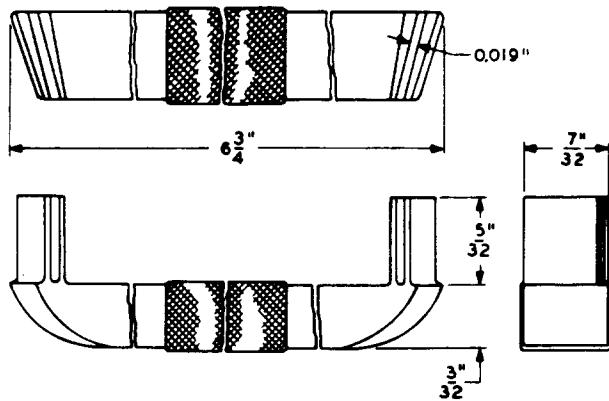

Fig. 8—648A Spring Adjuster Tool
2.09 648A: The 648A tool (Fig. 8) is a spring adjuster used on the KS-13835 readers and replaces the D-178347 adjuster.